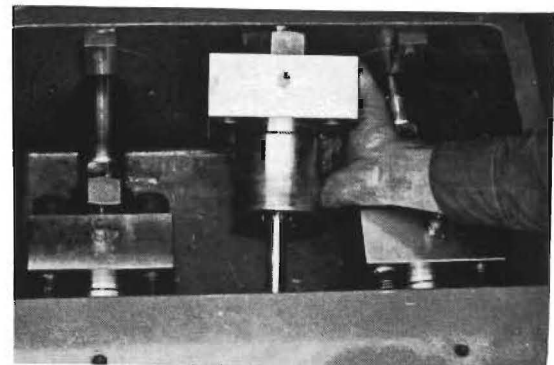

FIGURE 6-25
- F. SLIDE THE PACKING CARTRIDGE SUBASSEMBLY (INCLUDING THE PLUNGER AND FLANGE) INTO THE FRAME PLATE. SEE FIGURE 6-25.